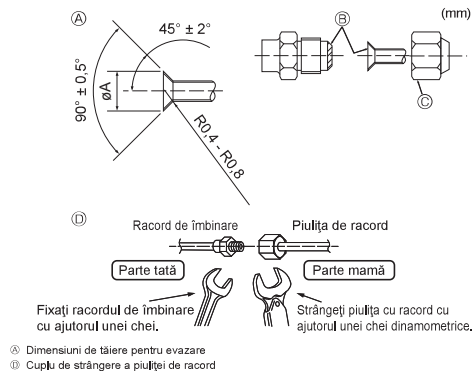

Fig. 4-1
Ⓐ (Fig. 4-1)
Ⓢ (Fig. 4-1)
4.2. Conectarea conductelor (Fig. 4-1)